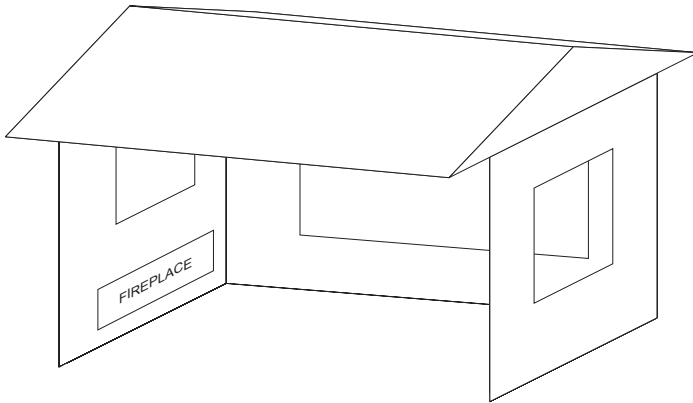

Figure 7
- Within a partial enclosure that includes an overhead cover and three side walls, as long as 30 percent or more of the horizontal periphery (perimeter of walls and open side) of the enclosure is permanently open. See Figure 7.